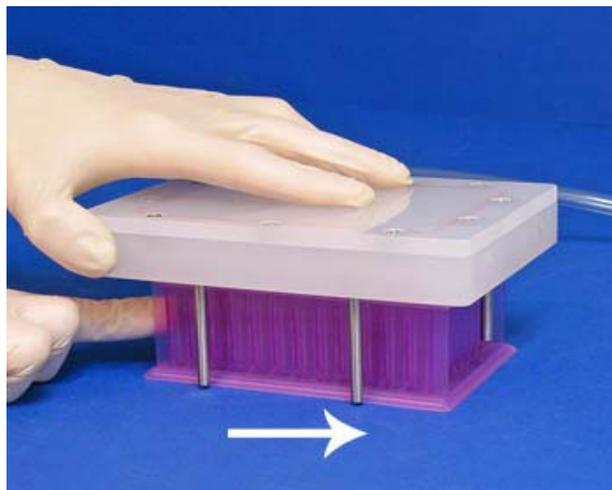

Figure 4. Shifting the microplate to the right.
3. Once the tubes are near the bottom of the wells, push the microplate to the right (towards the short guide pin) about 3 mm with your thumb or finger as indicated in Figure 4. This places the tip of the tube in the corner of the well and facilitates aspiration.